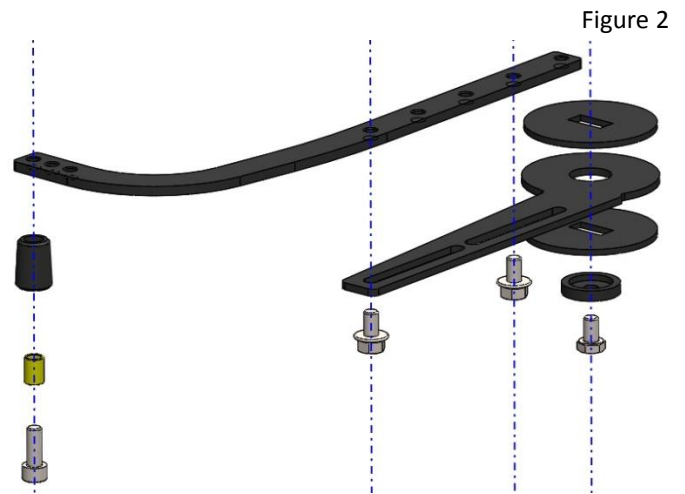

Figure 2
4.5 Assemble the articulated arms (as indicated in the figure 2), and fix them to the gearmotors and to the sliding guide.